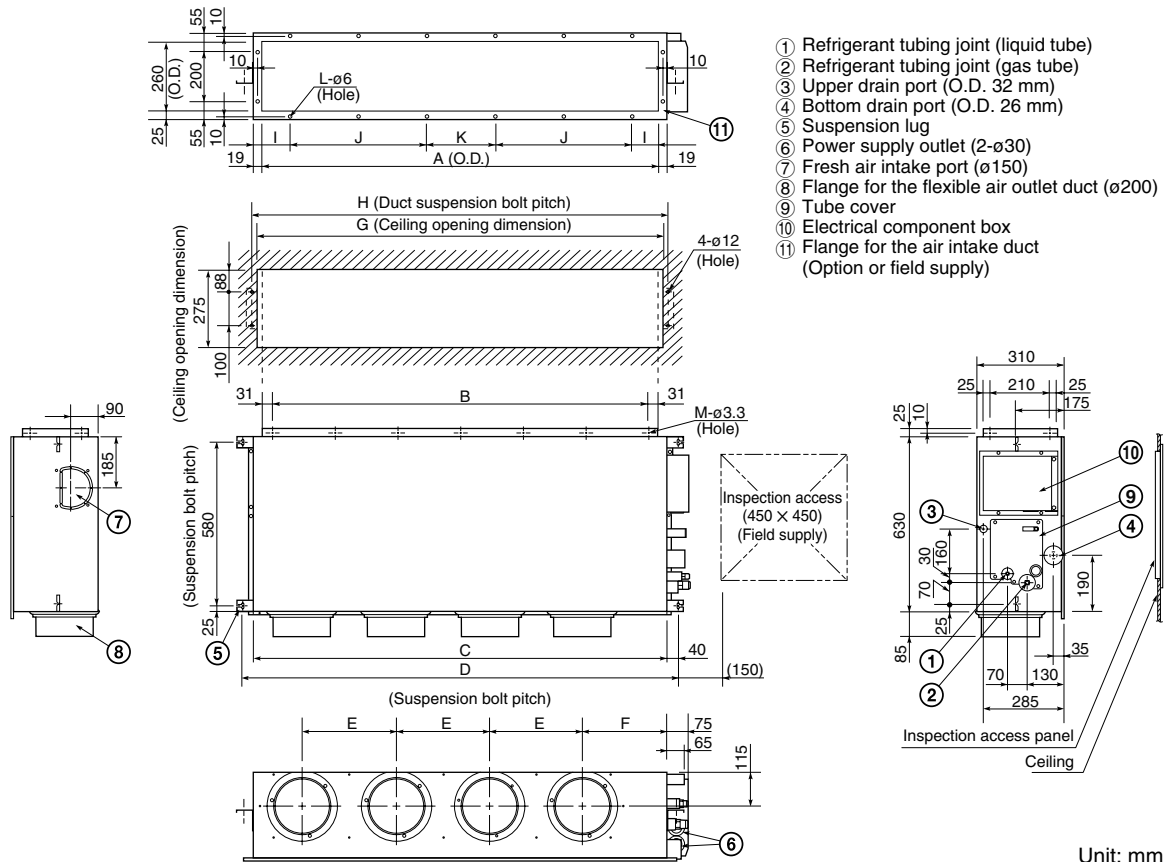

Fig. 3-135
- Fig. 3-135 and Table 3-6 show the detailed dimensions of the indoor unit.